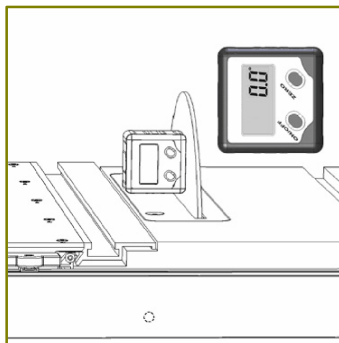
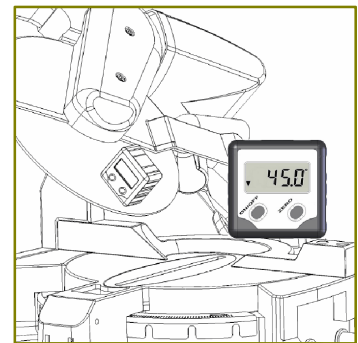

Figure 5
Figure 6
- 4 At this stage a properly adjusted saw blade or jointer fence will read 90° (see figure 5). If the reading is off, re-adjust your machine following the manufacturers instructions.
- 5 Now press zero again, to re-reference the gauge in the absolute vertical position (see figure 5). Now the angle of the blade can be adjusted to the desired reading, again following the manufacturers instructions (see figure 6).